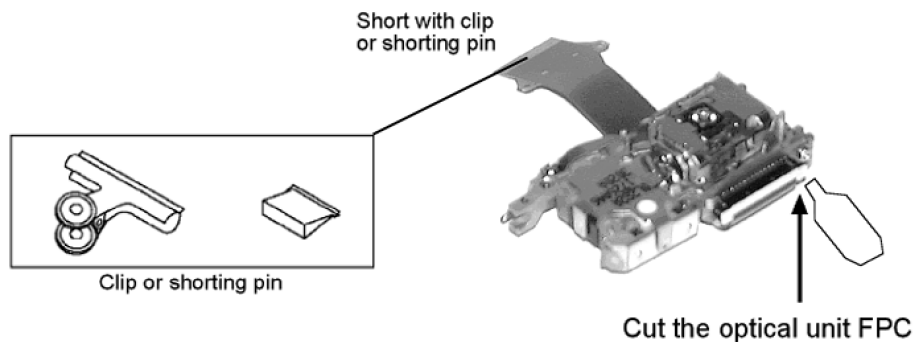
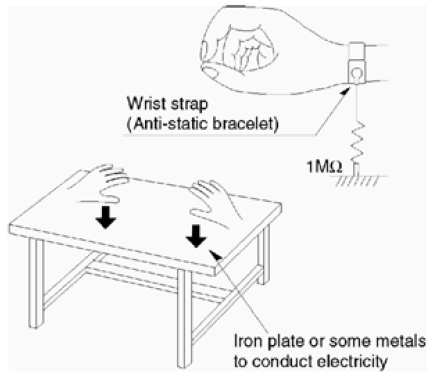

Fig. 6.1
Fig. 6.2
2. Short-circuit the flexible cable of optical pickup remove from the circuit board using a short-circuit pin or clip in order to prevent laser diode from electrostatic destruction (Refer to Fig. 6.1 and Fig. 6.2)
3. Do not handle flexible cables forcibly as this may cause snapping. Handle the parts carefully (Refer to Fig. 6.1)
4. A new optical pickup is equipped with an anti-static flexible cable. After replacing and connecting to the flexible board, cut the anti-static flexible cable. (Refer to Fig. 6.1)
- Use the anti-static wrist strap to discharge the static electricity accumulated in your body. (Refer to Fig. 6.2)
- Place a conductive material (conductive sheet) or ironboard where optical pickup is placed. (Refer to Fig. 6.2)